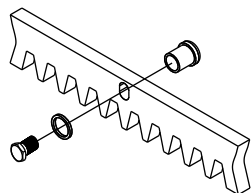

Fig. 17
7.2. Fix on each gear rack element the support pawls with the appropriate lock screws, make sure to put them in the upper part of the hole (Fig. 17);